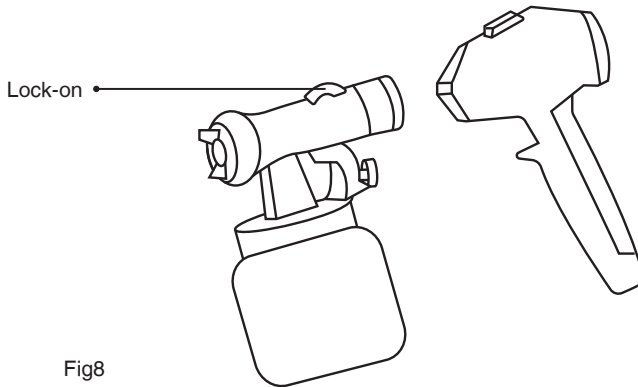

Fig8
2) Divide the spray gun. Press the unlock button (Fig. 8) downwards.